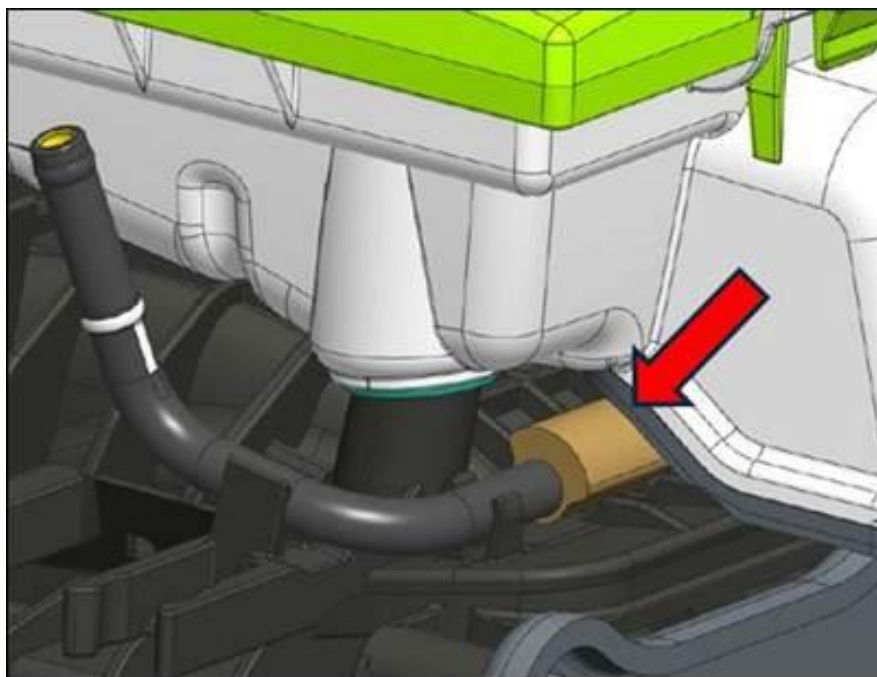

Figure 3) Improved coolant pipe with insulation
- Replace the coolant pipe (Figure 3) with part number 04E 121 064 S. See Repair Manual Group 19 in Elsa.